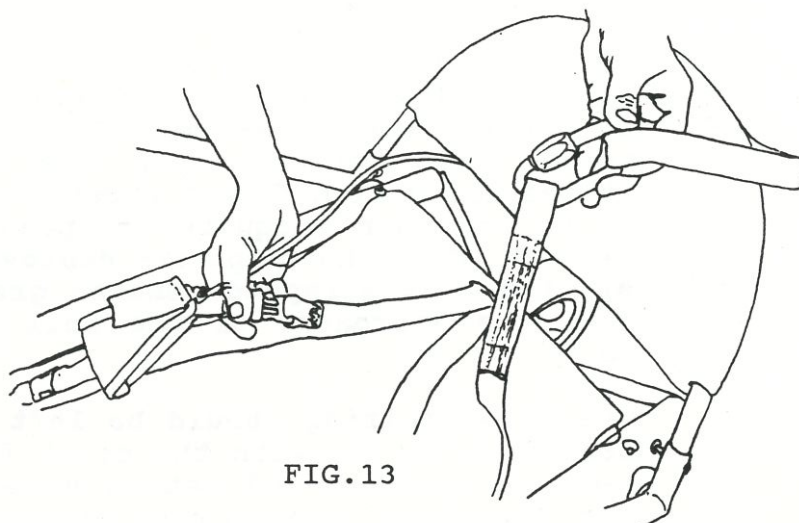

FIG. 13
13. Mount the back-up parachute with the rocket pointed up and back. The firing cable should be routed under the parachute, and the handle assembly is clipped to the shoulder strap. Attach the parachute bridle to the cage bridle with the carabiner.(fig.13)